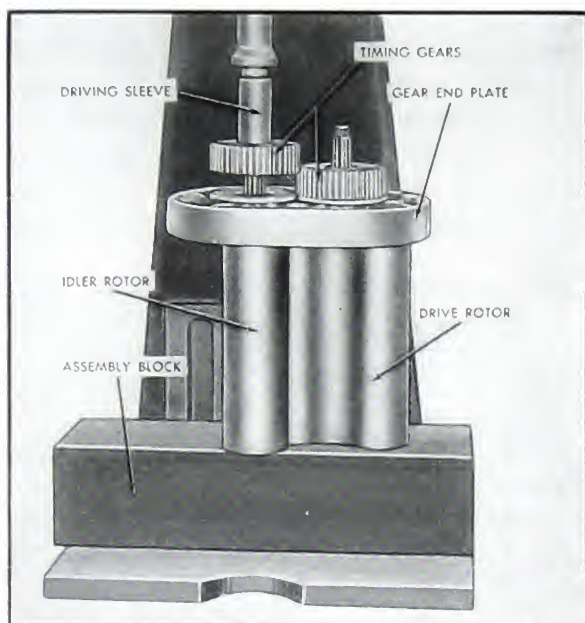

Fig. 10-8. Pressing gear in place
5. Assemble new double row ball bearings to the rotor shafts as shown in Fig. 10-8 with the bearing name to the outside. Drive bearings into end plate bearing pockets using special driving mandrel.